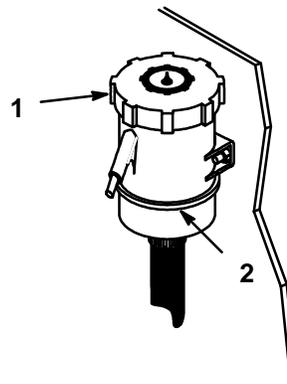

Figure 26
2. Clean around the fluid reservoir (Fig. 26) so level is clearly visible and so dirt cannot fall into the reservoir if fluid is added.
3. When transaxle is cold add oil to "Full Cold" line on reservoir (Fig. 26).